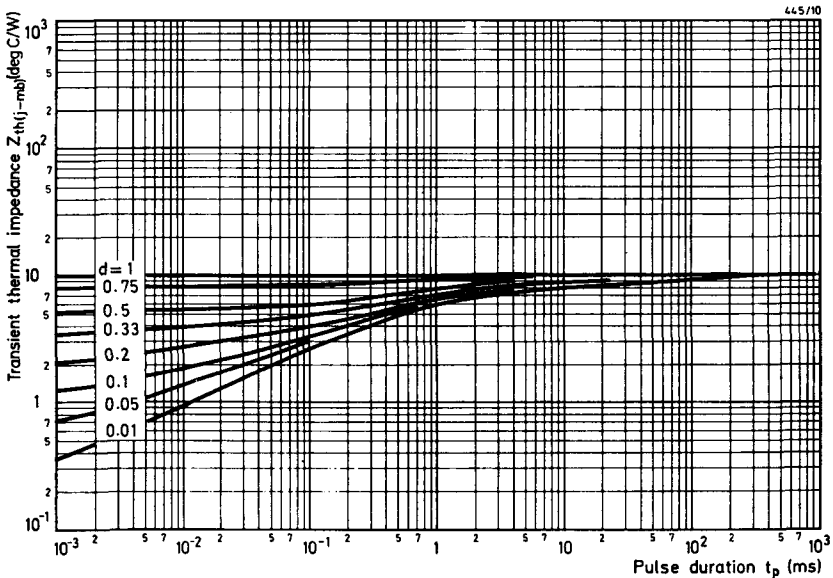
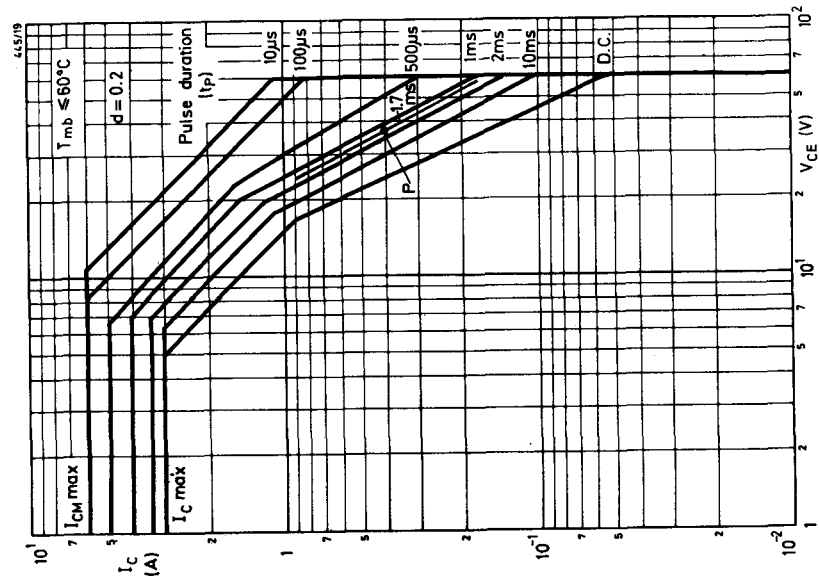

Fig. 2—Typical thermal impedance curves at various duty cycles
Fig. 4 — Typical SOAR family for $d = 0.2$ (20% duty cycle)
which is low at high collector-emitter voltages and higher at low voltages. Three loci for critical current values are shown on the diagram; these represent d.c., pulse, and short pulse operation. The extension of the second-breakdown locus for pulse operation is dependent on the pulse duration t_p and also, to a lesser extent, on the duty cycle d (see Figs. 2 and 3). Thus the greatest extension is permissible with single-shot pulses ($d = 0.01$) of short duration, say $10\mu s$. (The value $d = 0.01$ can be considered as single-shot because there is ample time for cooling between power pulses).
In general, the data provides SOAR curves for pulse durations in multiples of 1, 2, 5, and 10, starting at pulse durations in the region 10 to 50 μ s. The families of curves are plotted at duty cycles of 0.01 (single-shot) 0.1, 0.2, 0.5, and 1.0 (d.c.). The transient thermal impedance curves are also included so that the operating mounting-base temperature can be calculated. Typical SOAR data curves for duty cycles of 0.2, 0.5 are illustrated in Figs. 4 and 5.
The procedure for constructing a SOAR for one specific set of conditions is described with reference to the curves shown in Figs. 4 and 5, and to the transient thermal impedance curves in Fig. 2.
Where $Z_{th(td)}$ is the thermal impedance for pulse duration t at duty cycle d , and $Z_{th(to)}$ is the thermal impedance for pulse duration t at duty cycle $d = 0.01$ (from Fig. 2).
Suppose the application had required an I_{CM} of 400mA instead of 300mA. In this case the point P on Fig. 4 would be given. Point P is outside the 2ms area which indicates that the condition may be unacceptable. Thus a closer approximation to the true conditions is necessary.
- 2) If point P is outside the 1.7ms area, then determine the 1.7ms area on the family of curves for $d = 0.2$ (Fig. 4). A further linear interpolation between the two 1.7ms areas is then needed to approximate to the 1.7ms SOAR at duty cycle of 0.37.